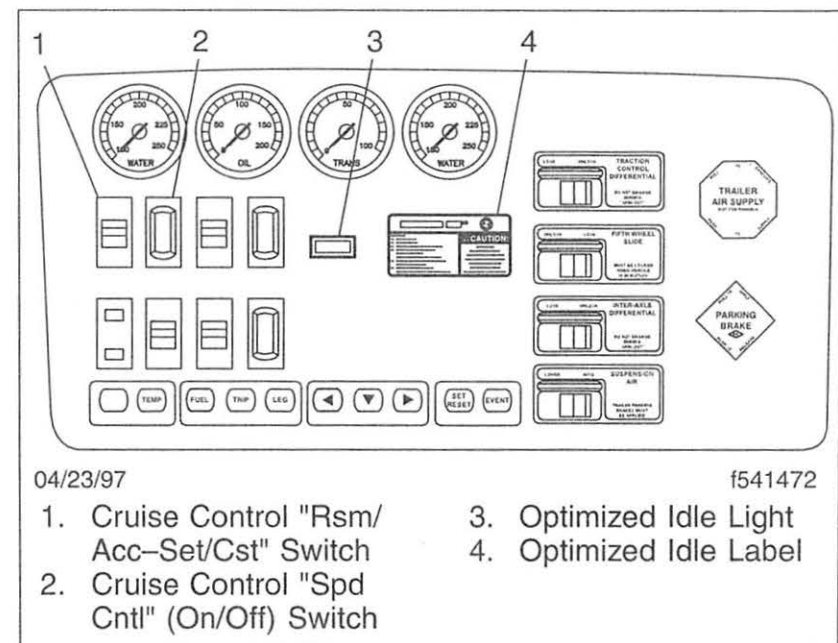
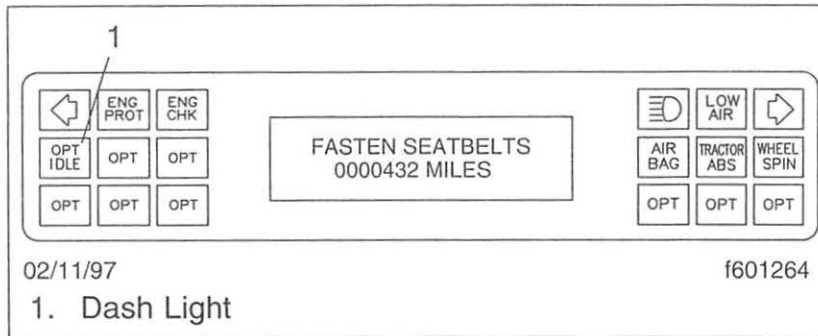
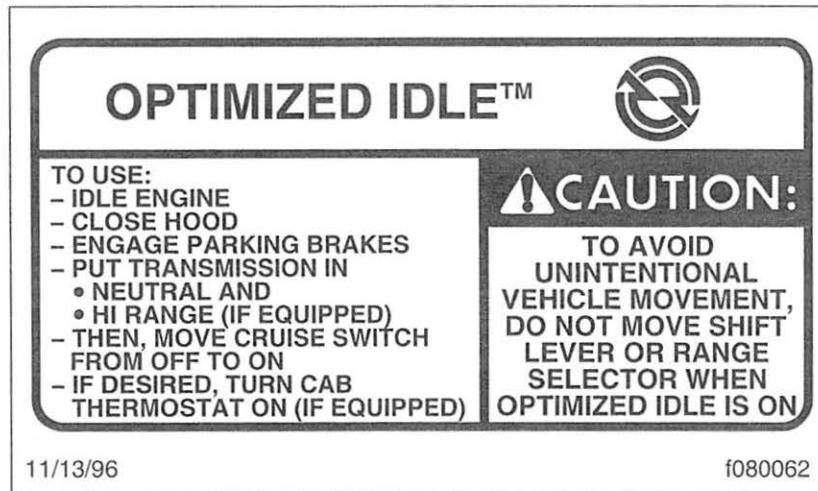
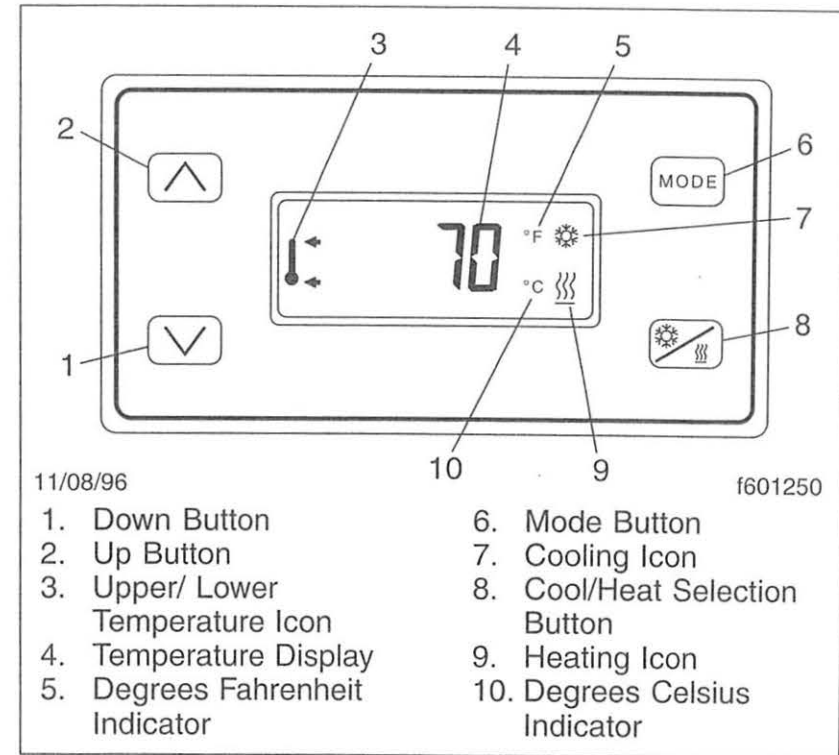

Fig. 7.4, Dash Light, Vehicles Built Before January 1997
Fig. 7.5, Dash Light, Vehicles Built After January 1997
Fig. 7.6, Optimized Idle Dash Label
Fig. 7.7, Optimized Idle Thermostat
Vehicles equipped with Optimized Idle have a label and a dash light. On vehicles built before January 1997, the dash light on the "B" panel of the dashboard. See **Fig. 7.4**. On vehicles built after January 1997, the dash light is on the dash message center, on the "A" panel. See **Fig. 7.5**. See **Fig. 7.6** for the dash label detail. If equipped with the thermostat mode, a thermostat is located in the sleeper, above the bunk. See **Fig. 7.7**.
- 2.2 Turn on the thermostat by touching any of the four buttons. See **Fig. 7.7**.